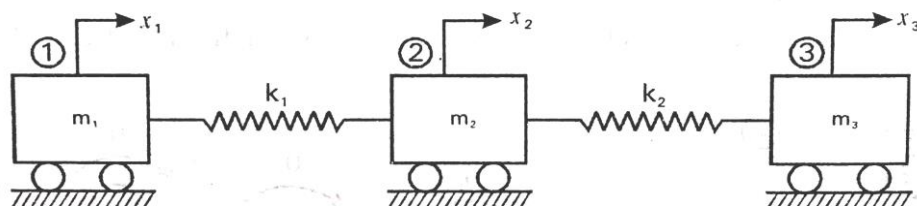

Figure 7a
- 7 a) Determine the natural frequencies of the system shown in figure 7a by Holzer's method